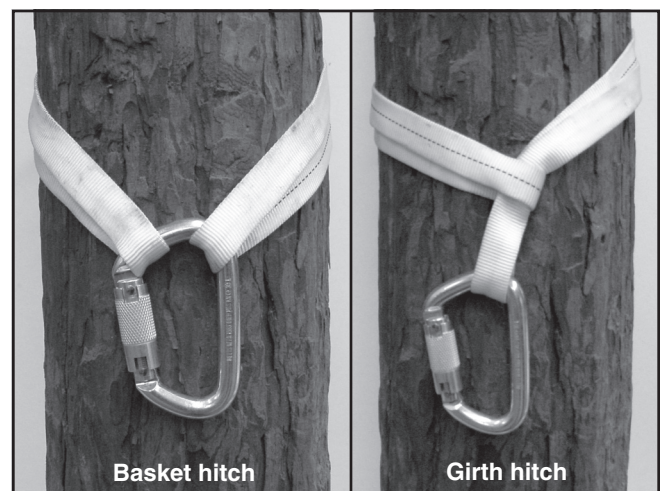
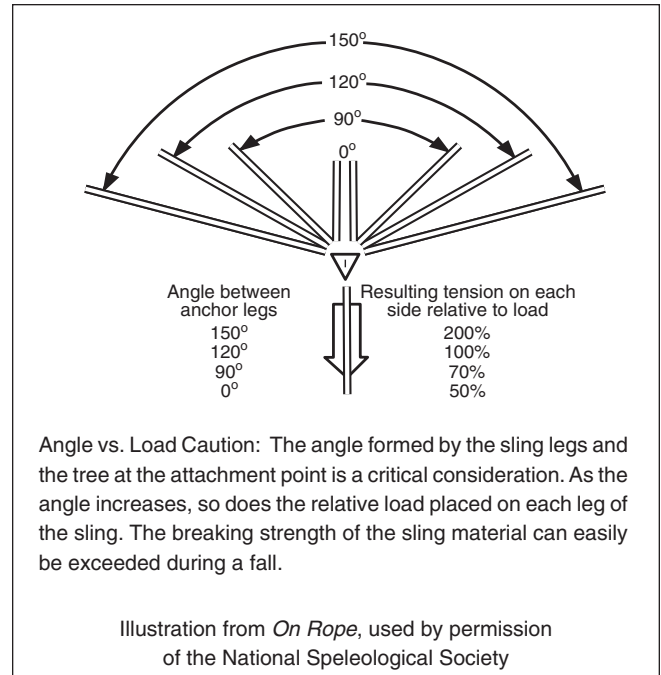

Figure 4e—A sling wrapped around a bole.
Figure 4g—The angle formed by the sling legs and the tree is critical.
1. Pass the sling around the tree bole and secure both ends of the sling with a single carabiner. Don't use a girth hitch to secure a sling around a bole (see figure 4e). This practice creates potentially dangerous stress on the sling.
- Wrapping a sling (figure 4e) around the bole above a branch whorl and using a carabiner to attach it to the safety line below the Prusik knot. Allow sufficient slack in the sling to prevent load from being applied to the side of the carabiner. The safety line should run through the carabiner, NOT between the tree and the sling.
2. A belay anchor point can be established by securing a sling around a suitable tree bole above any extreme butt swell. The anchor point is set low to prevent the belay device from being pulled out of the belayer's reach during a fall. Figure 4e illustrates methods of securing a sling. The anchor material must meet the 5,400-pound breaking strength requirement and should NOT be configured into a girth hitch, which could create dangerous stresses (figure 4g) on the sling.